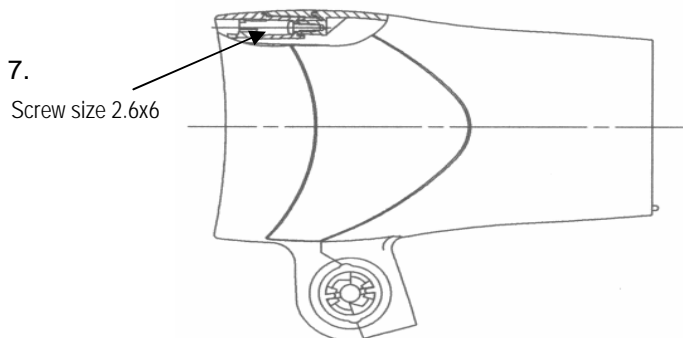

Figure 7
- (6) Put heater block into front housing by align heater base board with air outlet ring.
- (7) Assembly housing cover and back housing with front housing, install swivel ring and drive tapping screw size 2.6x6 as shown in Figure 7.